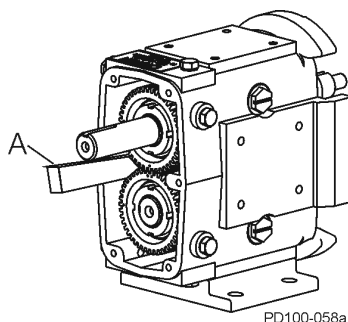

Figure 40 - Block Shaft Rotation
2. Prevent the shafts from turning by placing a wedge or soft dowel between the gears (Figure 40, item A). Use a gear nut driver tool (see below) to remove the gear locknut. The gears will be removed later.